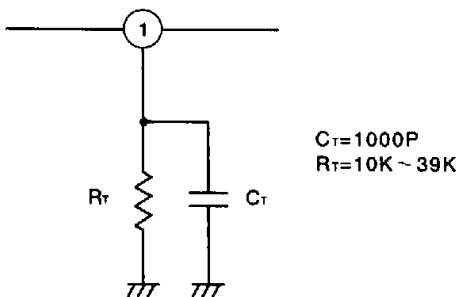

Figure 1. Present circuit
In the present document (provisional data, supply standard) CR time constant of ① pin which determines burst gate pulse starting point is specified by external constants as shown in figure 1.